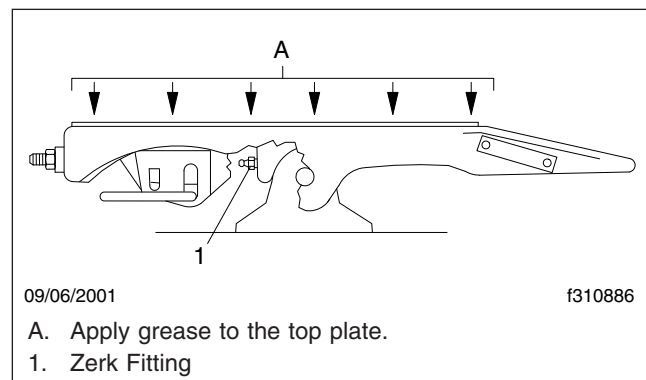

Fig. 6, Holland Fifth Wheel
1. Using a water-resistant lithium-base grease, apply grease to the top plate. Grease the mounting bracket supports through the zerk fittings. See **Fig. 6**.